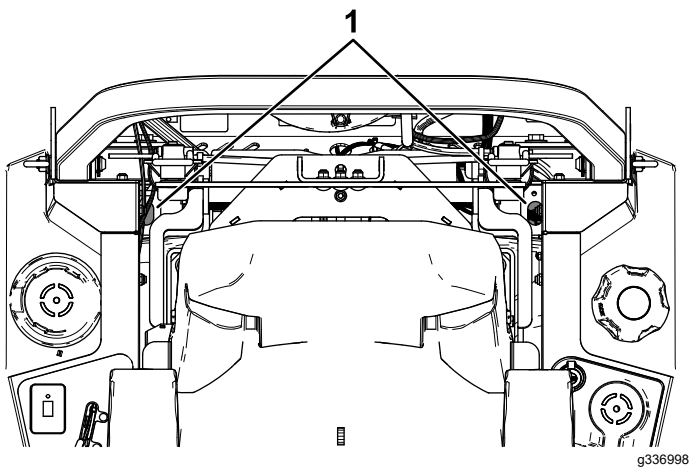

Figure 78
- **For ZT 4400 Hydros**, use an extension and 7/16-inch socket, access the vent plug from the top of the machine through the holes near the roll-bar mounts (Figure 78).